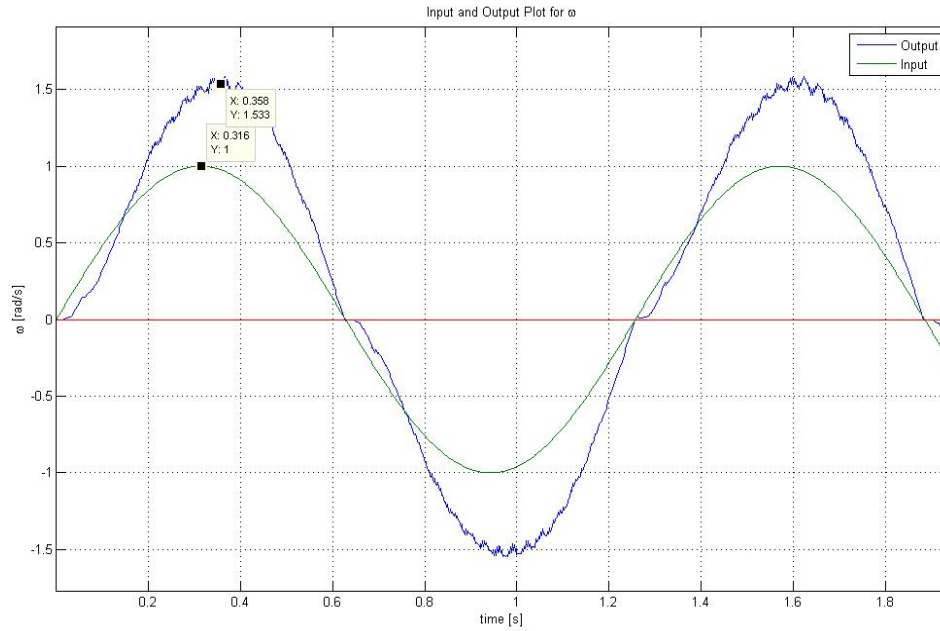

Figure 3.2: Matlab generated plot of the input and output of the system for $\omega_u = 5$ rads/sec
2. The frequency response of a system is determined by first constructing a Bode Plot. This is done by inputting different sine waves with varying frequencies, and measuring the magnitude and phase difference between the input and the output. For example, Figure 3.2 shows the input and output of the system for a sine wave with $\omega_u = 5$ rads/sec. Notice how the magnitude of the output is larger, and the peak time is shifted by roughly 0.05s. This observation will be made for sine waves with frequencies varying from 0.5 rads/sec to 300 rads/sec, or possibly even higher.